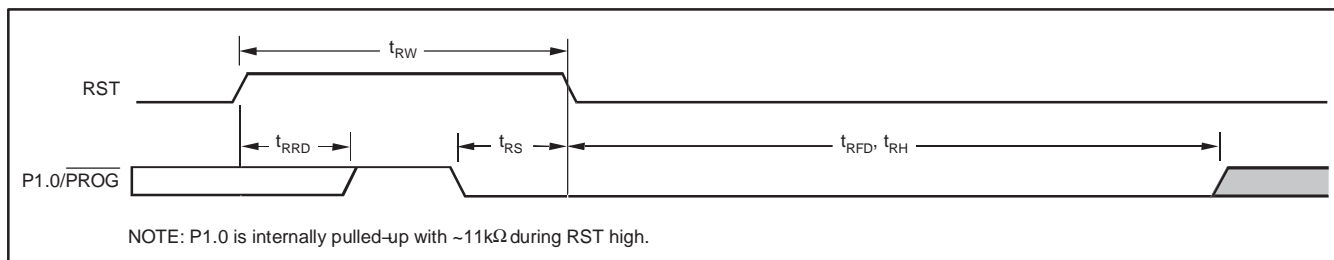

Figure 2. Serial Flash Programming Timing
**SERIAL FLASH PROGRAMMING TIMING: SEE FIGURE 2**